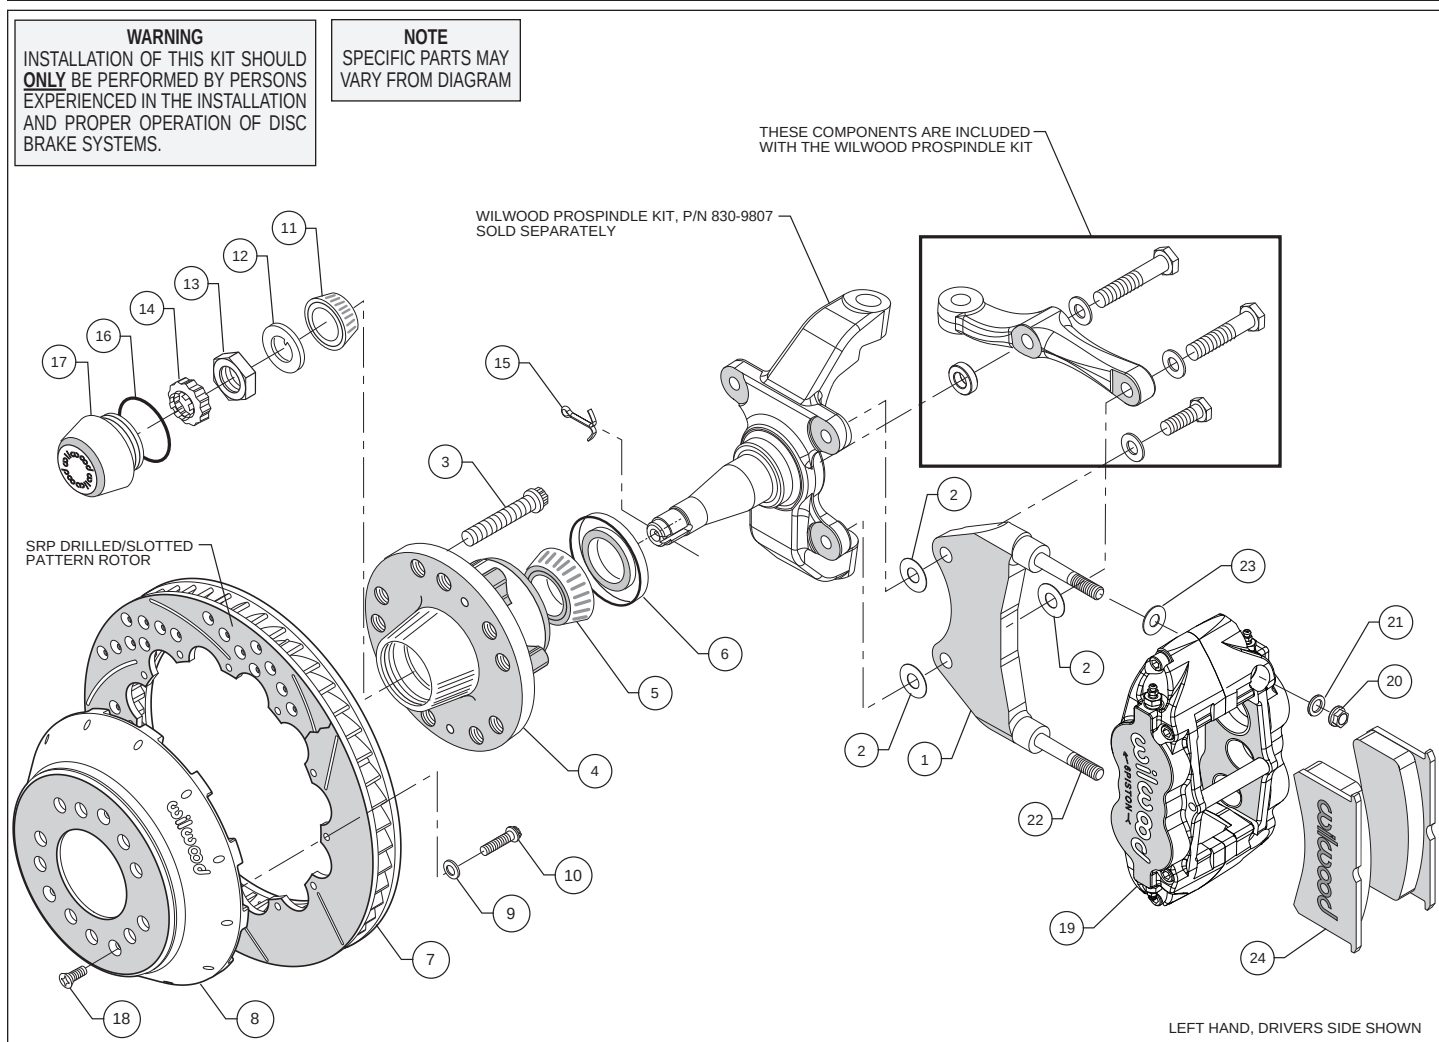
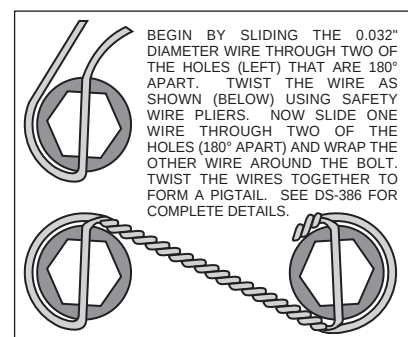

Figure 1. Typical Installation Configuration
Figure 3. Safety Wire Diagram
- The caliper mounting bracket assembly (1) in conjunction with the Wilwood ProSpindle (P/N 830-9807, includes three mounting bolts, three washers, and a spacer, kit sold separately) should be installed first with clean, dry threads on the mounting bolts. Install the bracket on the inboard side of the spindle by sliding the 1.25" long bolt from the ProSpindle kit through a flat washer, also from the ProSpindle kit, through the top hole of the caliper mounting bracket (1) and into the upper rear spindle mounting ear hole, do not tighten at this time. Use two thin shims (2) between the bracket and spindle during initial trial fitting. Slide the 2.00" long bolt from the ProSpindle kit through a flat washer, through the rear (thinner end) hole on the steering arm, through two shim washers (2), through bottom hole of mounting bracket (1), through another two shim washers (2), and finally into the lower rear spindle mounting hole. The bracket (1) is positioned between the steering arm and the spindle for the bottom bolt installation. The bracket and shim washers, for the lower rear mounting must be a thickness of $.550 \pm .010$ ". Again, do not tighten. Finish installing the steering arm assembly by sliding the 2.25" long bolt through flat washer, then through the front (thicker end) hole of the steering arm. Place the .25" thick spacer between the steering arm and the backside of the spindle. Snug all three bolts. The bracket must tighten squarely against the inboard side of the caliper mounting bosses on the spindle body. Inspect for interference from casting irregularities, machining ridges, burrs, etc.
- Install wheel studs (3) into the hub (4). Torque to 77 ft-lb. **NOTE:** There are two lug patterns of five holes each in the hub (5 x 4.50 and 5 x 4.75). Make sure of the correct hole pattern for the wheel application before installing the studs into the hub.
- With the larger I.D. side of the rotor (7) facing away from the hat (8), bolt the rotor (7) to the hat (8) through the backside of the rotor using washers (9) and bolts (10) provided in the configuration pictured in figure 1. Using an alternating sequence, apply red *Loctite*® 271 to the threads and torque bolts to 155 in-lbs. For an added measure of security, the bolts may be safety wired using standard 0.032 inch diameter stainless steel safety wire as shown in Figure 3. Please refer to Wilwood's data sheet DS-386 (available at www.wilwood.com/Pdf/DataSheets/ds386.pdf) for complete safety wire installation instructions.
- Pack the large inner bearing cone (5) with high temperature disc brake bearing grease (available from your local auto parts store) and install into the backside of the hub (4).
- Install the grease seal (6) by pressing into the backside of the hub (4).
- Pack the small outer bearing cone (11) with high temperature disc brake bearing grease and install into front of hub (4). Slide the hub assembly (3, 4, 5, and 6) with outer bearing cone (11) onto the spindle. Secure using spindle washer (12), adjusting nut (13) and nut retainer (14). secure to spindle using cotter pin (15). Adjust bearing using a 12" wrench to tighten the adjusting nut while turning the rotor. When the rotor binds slightly, all the bearing parts are seated properly. Back off the nut 1/6 to 1/4 of a turn or enough to allow 0.001 to 0.007 end play. Lock the nut with a new cotter pin. **WARNING:** Failure to back off the adjusting nut may cause the bearing to run hot and be damaged, which could cause the wheel to lock or come off during operation, creating a risk of serious bodily harm.
- Install the o-ring (16) and the dust cap (17) onto the hub (4). Friction created by the o-ring (16) on the dust cap (17) keeps it from unscrewing on its own.
- NOTE:** This kit contains distinct right and left hand calipers that must be mounted in a specific direction, as described below. Lubricate the caliper mounting studs (22) with lightweight oil. Initially place two .035" thick shims (23) and on each stud as shown in Figure 1. Mount the caliper (19) onto the bracket (1) using lock nuts (20) and washers (21), Figure 1. Ensure that the caliper is mounted so that the largest pistons are at the rotor exit end of the caliper, in relation to the direction of rotor rotation. Temporarily tighten the lock nuts and view the rotor through the top opening of the caliper. The rotor should be centered in the caliper. If not, adjust the caliper mounting bracket by using .016" thick shims (2) placed between the caliper mounting bracket and the spindle, or between the spindle and the steering arm, whichever is applicable to gain the proper caliper/rotor alignment. Always use the same amount of shims on each of the mounting bolts. Once the caliper alignment is correct, remove the bracket mounting bolts one at a time, apply red *Loctite*® 271 to the threads, and torque to specifications outlined in the Wilwood ProSpindle kit.
- Remove the caliper center bridge pad retainer bolt, nut, and tube from the caliper. Slide the brake pads (24) into place. They should install easily without interference. Check that the outside radius of the brake pad is aligned with the outside diameter radius of the rotor face. Add or subtract shims (23) between the caliper and mount bracket to gain the proper alignment. Reinstall the center bridge pad retainer tube, bolt, and lock nut. The locknut should be snug without play in the bolt or tube. Be cautious not to over tighten.
- Remove the lug nuts that were holding the hat in place. Install three flat head socket head screws (18) through the small holes in the hat (8) and torque to 85 **in-lb**. Install the wheel and torque the lug nuts to manufacturer's specification. Check to see that the wheel rotates freely without interference.
- Once all clearances have been checked, remove the wheel, caliper, hat, and rotor from the spindle and hub. Secure the caliper mounting bracket (1) to the spindle using red *Loctite*® 271 on the bolt threads. Torque the ProSpindle supplied bolts to 47 ft-lbs. Reinstall the hat and rotor assembly and again use several lug nuts to hold it in place. Reinstall the caliper, torque the caliper nuts (20) to 30 ft-lbs.